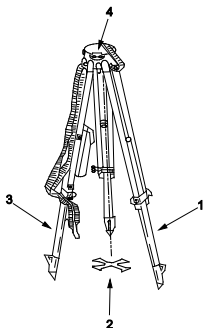
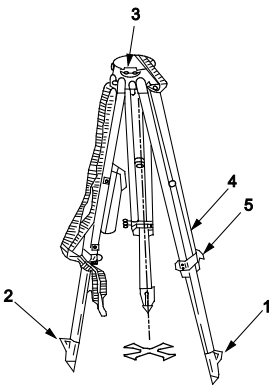

Figure 2. M24 Tripod Emplacement.
Figure 3. M24 Tripod Emplacement.
2. Spread M24 tripod legs (Figure 2, Item 1) and (Figure 2, Item 3) and position center of tripod over the orienting station (Figure 2, Item 2).
3. Place M24 tripod plate head (Figure 2, Item 4) upright, leg boots toward the ground. Step on leg boots (Figure 3, Item 1) and (Figure 3, Item 2) to set tripod firmly in place.
4. Bring tripod head (Figure 3, Item 3) into approximate level position by adjusting the length of the tripod legs (Figure 3, Item 4). Make sure leg clamp thumbscrews (Figure 3, Item 5) are tight.